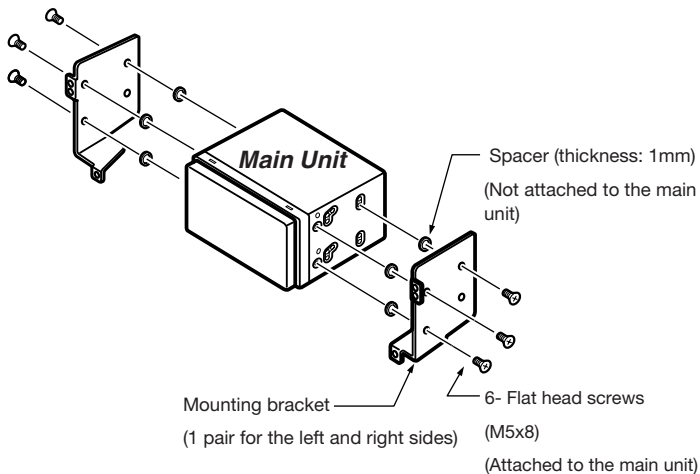

Figure 5
1. When installing the main unit in NISSAN vehicles, use the parts attached to the unit and follow the instructions in Figure 5.